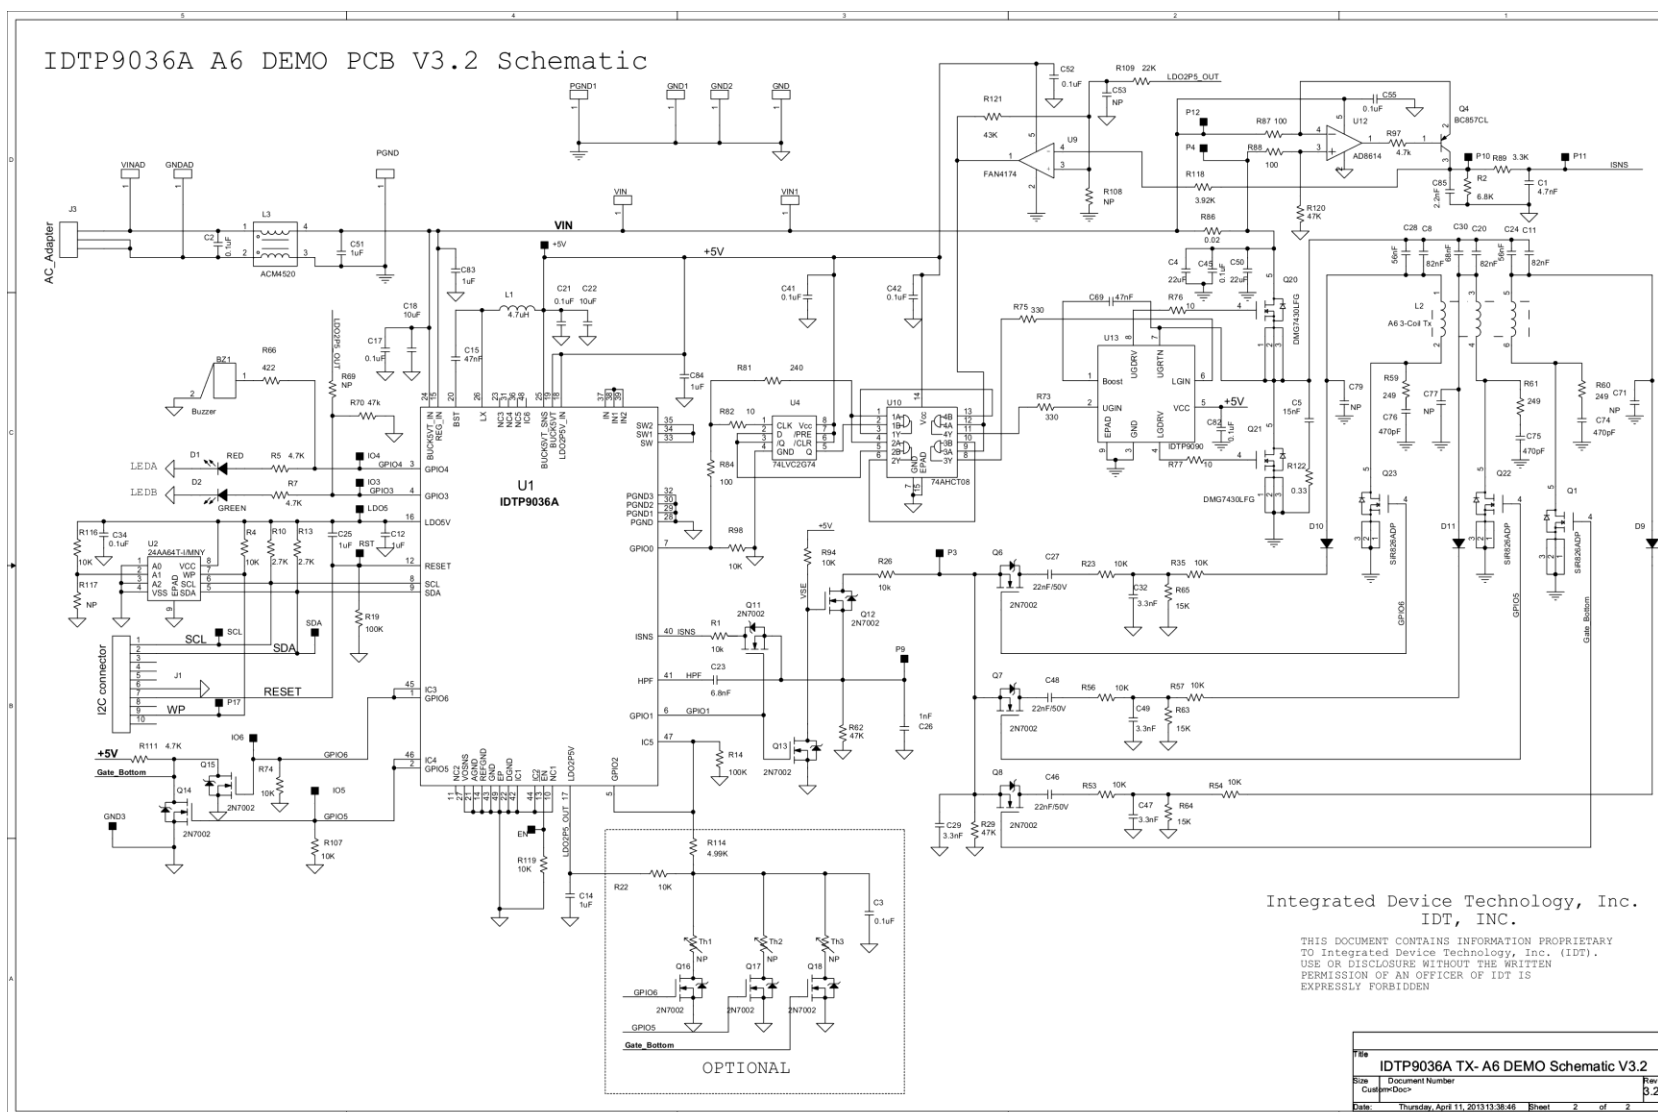

Figure 11. IDTP9036A WPC “Qi” Compliance Low-cost Schematic (See IDTP9036A Evaluation Kit User Manual for complete details and optional components.)
The recommended applications schematic diagram is shown in Figure 11. The IDTP9036A operates from a 12VDC (±5%) input. The switching frequency varies from 115kHz to 205kHz. At the 205kHz limit the duty cycle is also variable. The power transfer is controlled via changes in switching frequency and duty cycle. The base or TX-side has three series-resonance circuits made of a WPC Type-A6 triple coil and three capacitors. Two of the coils are 11.5μH each, and the other one is 12.5μH, each with a series resonant capacitor (~133nF or 147nF). The resonant circuits are driven by an external half-bridge inverter, as shown in Figure 9. Only the resonant circuit that is aligned with a receiver coil gets a complete path from the inverter output to power ground. The selection is made by voltage levels from GPIO5 and GPIO6, each of which drives a selection FET directly and drives an input of a wired-NAND circuit that activates or de-activates the third resonant circuit.
7). A complete design schematic compliant to the WPC “Qi” standard is given in Figure 11. It includes WPC “Qi” LED signaling, buzzer, and an EEPROM for loading IDTP9036A firmware.